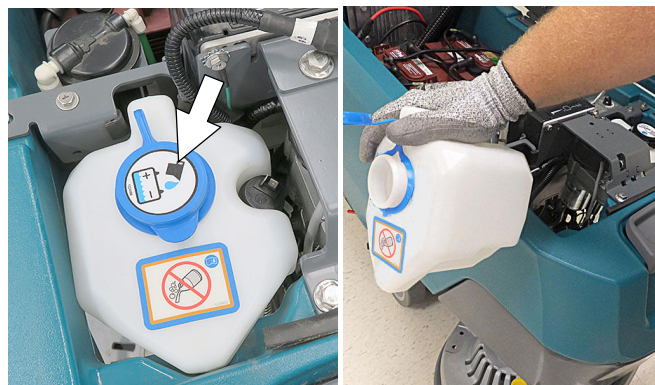

FIG. 138
5. Models equipped with optional automatic battery watering tank - Lift tank from machine and empty the water from tank (Figure 138).